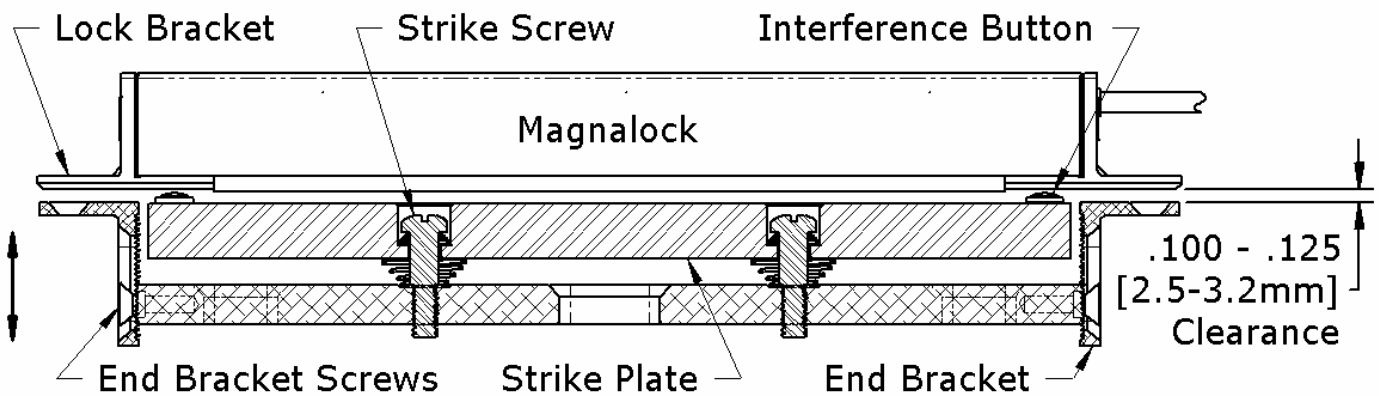

Figure 15 - Magnet body and strike assembly (side view)
De-energized adjustment of the strike height is important for proper door/lock operations. The example in **Figure 15** illustrates the lock with the proper adjustment. Without power applied to the lock, both of the interference buttons should just clear the lock brackets. Check this by opening and closing the door. To adjust the clearance to be closer, turn each of the strike (adjustment) screws (located in the center of the strike) counter-clockwise 1/4 turn, one at a time and recheck the clearances. Both screws do not have to be adjusted the same amount of turns. The adjustments should be made independently so that the strike level is uniform to the door frame and lock installation. The strike screws are allowed up to two (2) full turns of adjustment each. If the required adjustment is greater than two (2) turns, then tighten the screws clockwise back to the down position, loosen the end bracket screws and adjust the end brackets the amount of notches necessary to enable the final adjustments. Repeat adjustments as necessary until a properly functioning gap setting is achieved.